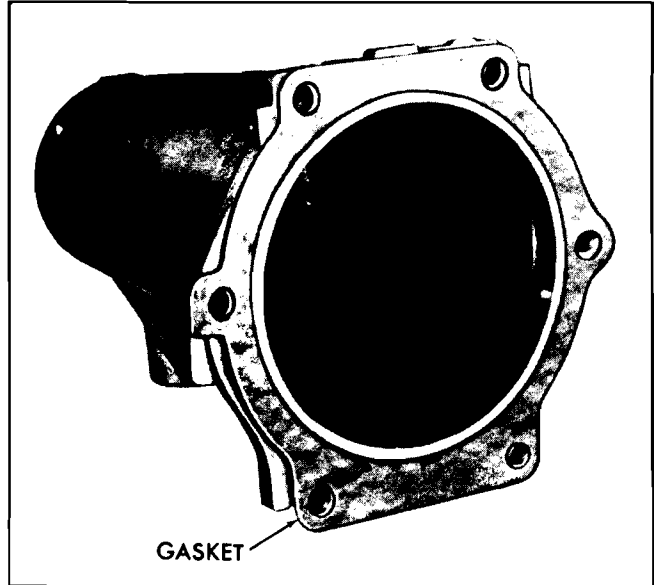

Fig. 7E-27 Location of Case Extension Gasket
2. Install a 5/16"-18 threaded slide hammer bolt or J 21904-1 into bolt hole (see Fig. 7E-28 for location).